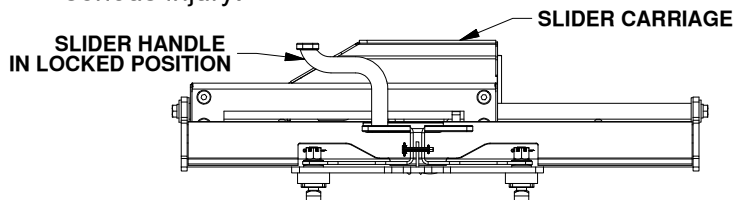

Figure A1: View of driver side of slider base.
**⚠ WARNING:** Whenever the slider base is being moved, the slider handle must be in the locked position, and the carriage must be unable to slide, see Figure A1. Failure to ensure that the handle is in the locked position can lead to property damage, or serious injury.